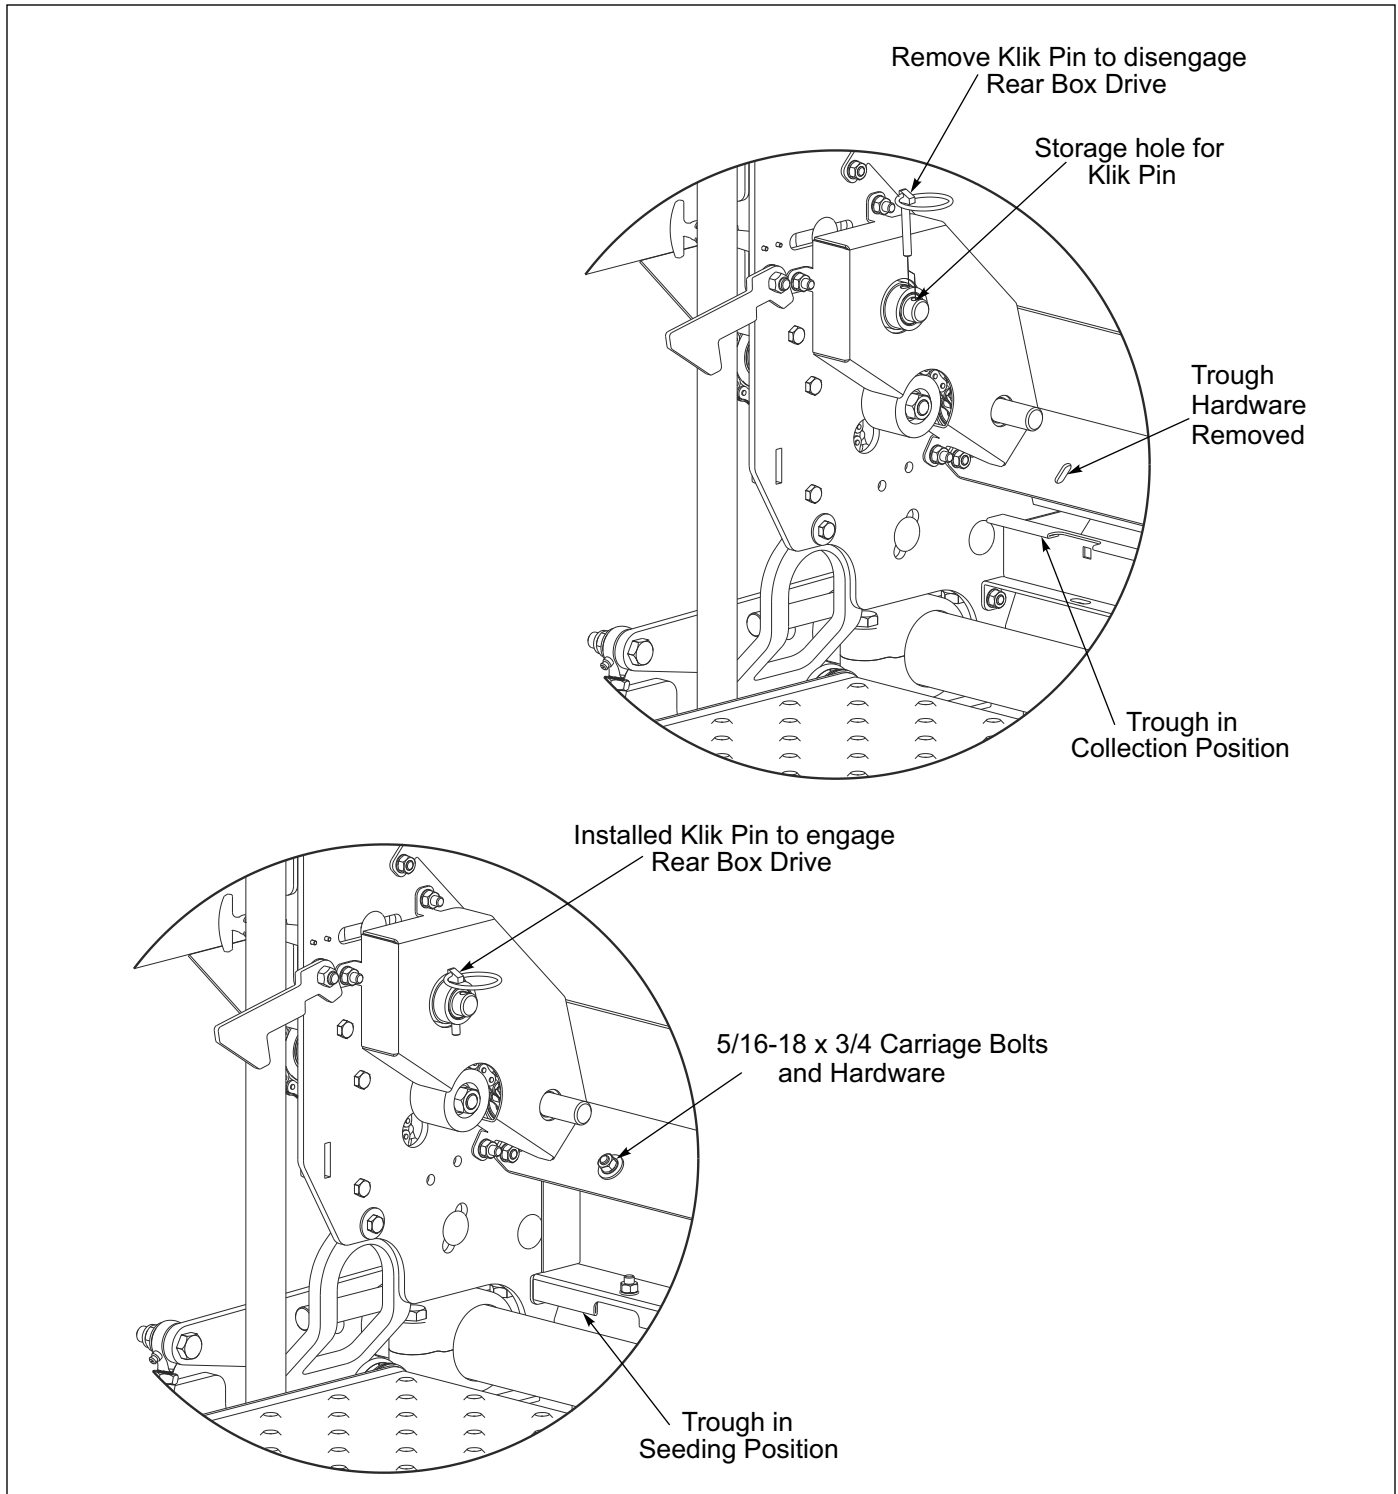

Figure 2-11: Rear Seedbox Calibration
Place Calibration Trough in Collection Position by removing (6) six Carriage Bolts. See Figure 2-11. Place tarp under front of machine. Refer to Seed Charts on the Seedbox Covers to determine initial Seed Meter Settings. If you need to close Seed Meters more than 1/8" for reduced output when there is seed in the Meters, you must turn the Seed Shaft while making the adjustment to prevent damage to the rotating washers and retainer rings in the Seed Meters. The wrench provided with the machine can be used for calibration purposes.